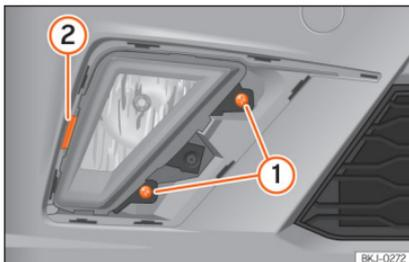

Fig. 59 Front fog light: remove the bulb holder
- Remove the two bolts » **Fig. 59** ① and lever the clip ② to remove the front fog light.